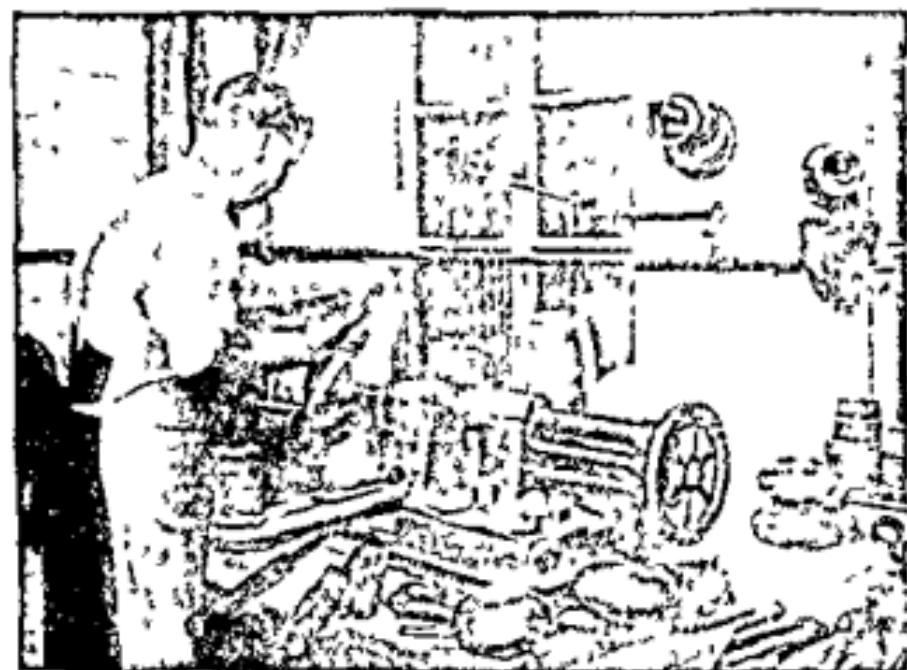

FIG. 192.—"Spinning" a Bowl out of a metal disc on a lathe.
FIG. 192.—Stages of a Table Fork. 1 Strip of metal. 2 Strip cross-rolled. 3. Blank fork "flared out." 4 Fork pronged. 5 Fork stamped. 6. Finished fork. 7 Cross-rolled strip for a tablespoon.
These strips have then to be treated by two rolls, which taper from the middle to the ends. Each strip is passed between the ends, and so cross-rolled or flattened out at each extremity, where the bowl or prongs, as the case may be, and the handle are to come. A cross-rolled strip for a spoon is shown in Fig. 192 (7); one for a fork in Fig. 192 (2).
The fork has next to be *pronged*. The three spaces between the four prongs are stamped out separately by a mechanical punch. A strip about an eighth of an inch deep is left at the top of the prongs (Fig. 192, 4) to keep them from spreading under the next operation of *rounding*, which is effected by driving them into a sunk die with one of the hammers described above. The shank is then *marked* with the maker's name and any suitable design and handed over to a *filer*, who trims off all the rough edges caused by the stamping, and removes the cross-tie at the ends of the prongs. The prongs and head are then beaten by wooden mallets to their proper curve, and the shaping of our fork is completed.